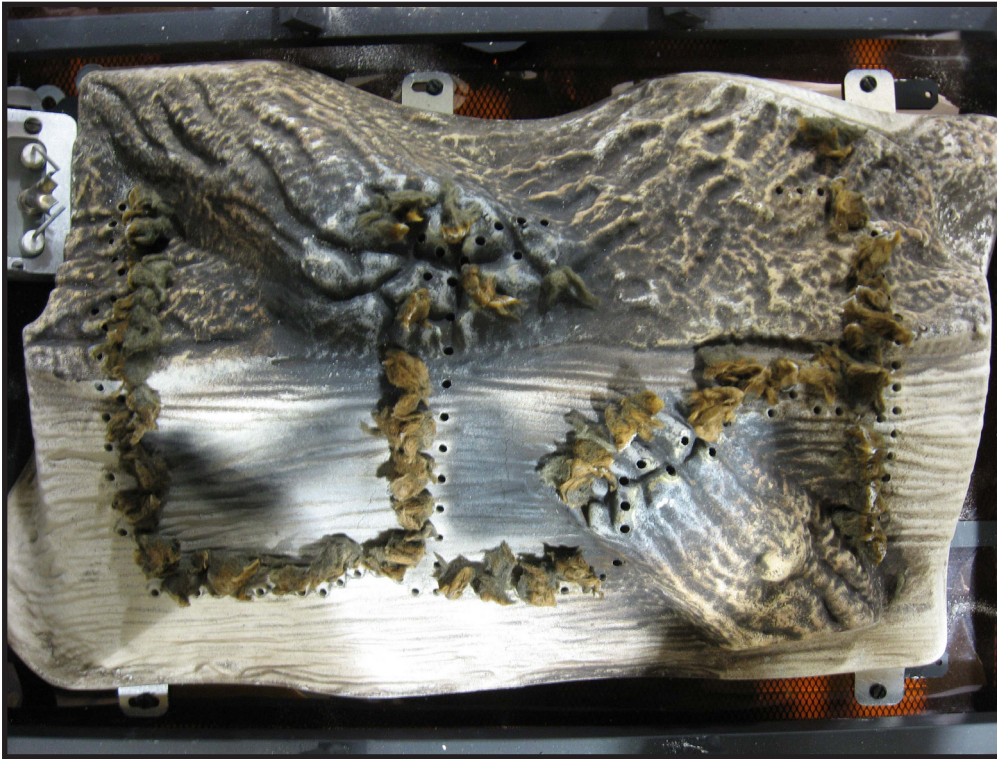

Figure 11.19 Placement of Embers
- When placing Glowing Embers® onto the burner care should be taken so that the ports are not covered. Place the dime-size ember pieces just in front of the port trail, but not on or in between the ports. See Figure 11.19. Failure to follow this procedure will likely cause lighting and sooting problems.